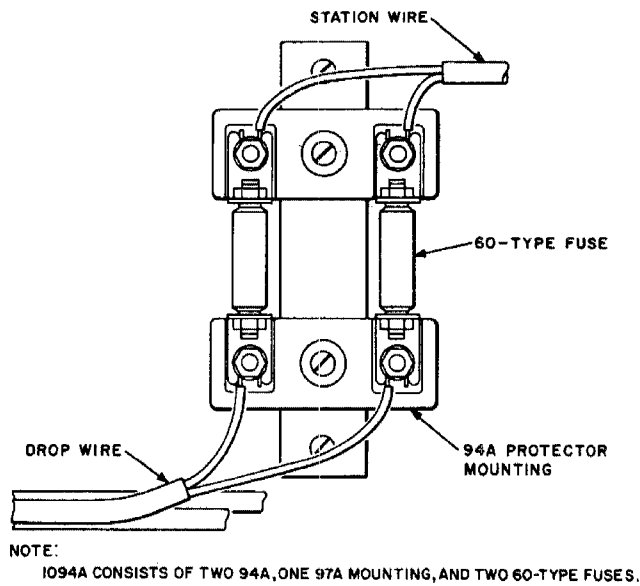

Fig. 22—1094A Protector With 60-Type Fuses
7.06 Fig. 22 illustrates a typical installation of 60-type fuses where no protector is required.